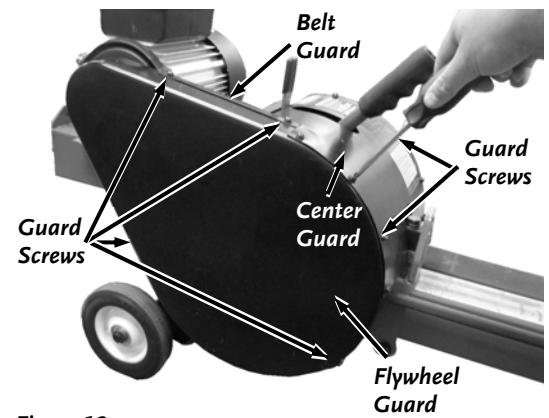

Figure 12
1. Use a Phillips Screwdriver to remove the 11 Guard Screws, Washers and Lock Washers that secure the Center Guard (**Figure 12**).